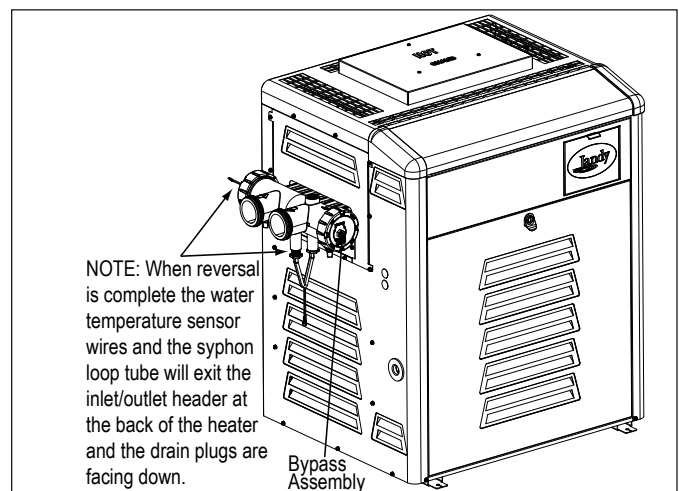

Figure 9. Water Connections Reversed
12. Place the inlet/outlet header over the bolts and gasketed tubes on the left side of the tube assembly. Align the bolt and tube holes in the header with the bolts and tubes in the header bar and slide the assembly together. Refer to Figure 9.